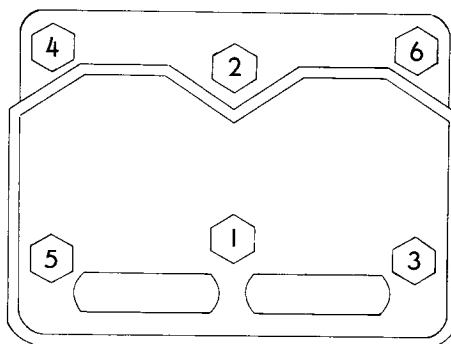

Fig. 4-24. Sequence for tightening cylinder head capscrews
7. Oil cylinder head capscrews and tighten each slightly in the correct order as shown in Fig. 4-24. Continue tightening in rotation and in 100 foot-pound steps with a torque wrench until all capscrews have been tightened to 430/450 foot-pounds.